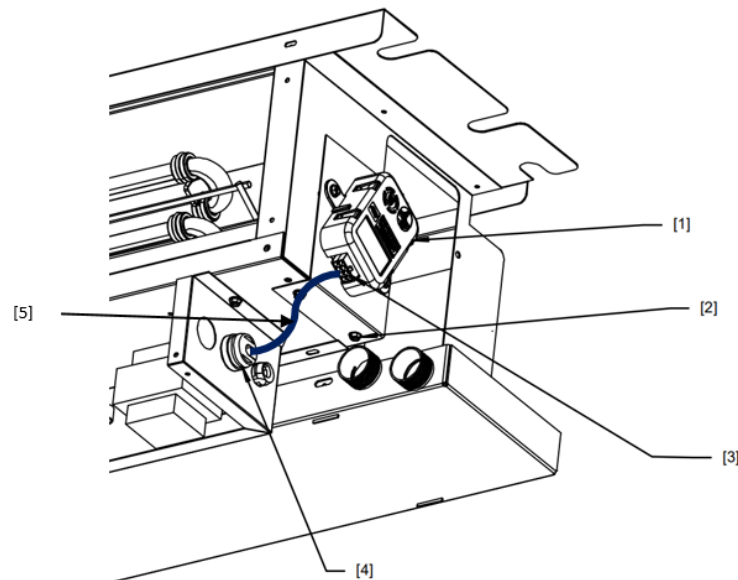

Figure 1 – Replacing Sensor to Bracket
3. Remove installed A2L sensor from bracket by removing two screws as shown in Figure 1. (use existing screws to install new sensor)
4. Attach new sensor to bracket using two existing screws. See Figure 1